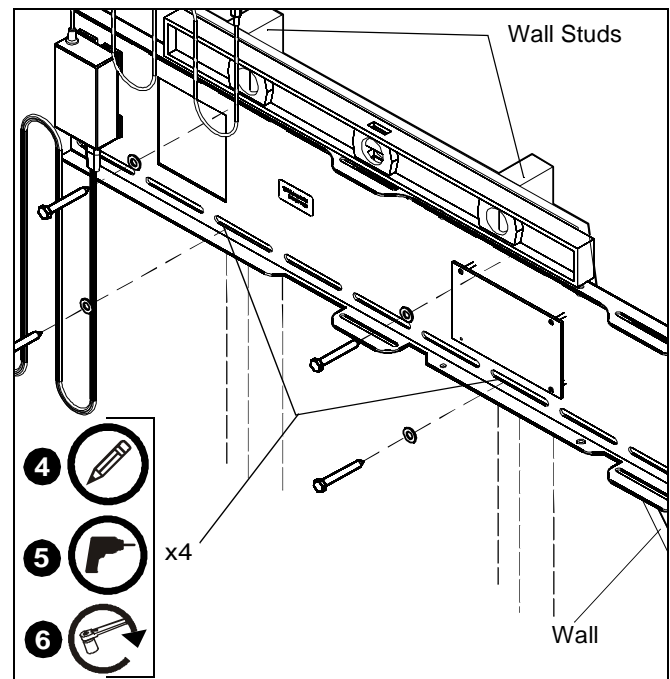

Figure 2
4. Using a level, mark the wall on each stud to install the wallplate assembly (M). (See Figure 2)
5. Drill pilot holes at markings. (See Figure 2)
6. Use four lag bolts and four flat washers (not provided) to attach wallplate assembly to wall. (See Figure 2)